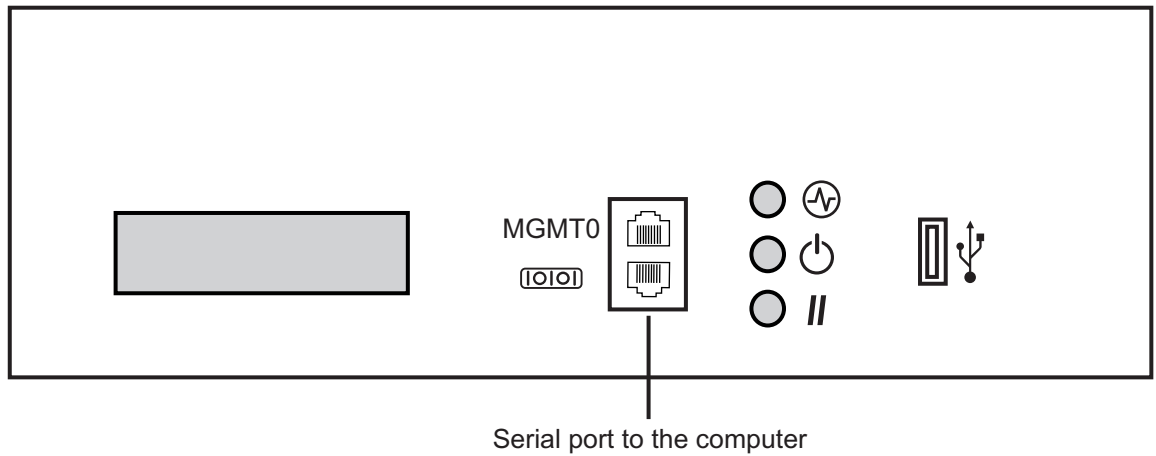

Figure 5.1 Computer to TMG3200 Serial Port Connection
1. Connect a CAT5 RJ-45 (male-male) cable (supplied with unit) between the com port of your computer and the serial port (labelled 1010) of the TMG3200 as shown in figure 5.1 on page 32. See figure 5.3 on page 33 for a RJ-45 pinout description.